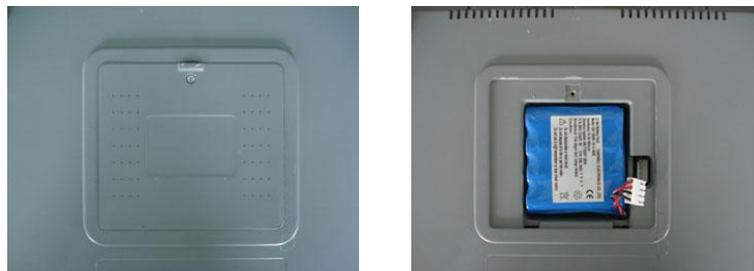

Figure 5-21 Battery installation
- ◆ The battery is put into the battery compartment without connecting to the battery socket at factory. After receiving the ECG, if built-in rechargeable battery is to be used, connect the battery to the socket first. See Figure 5-21 for installation.